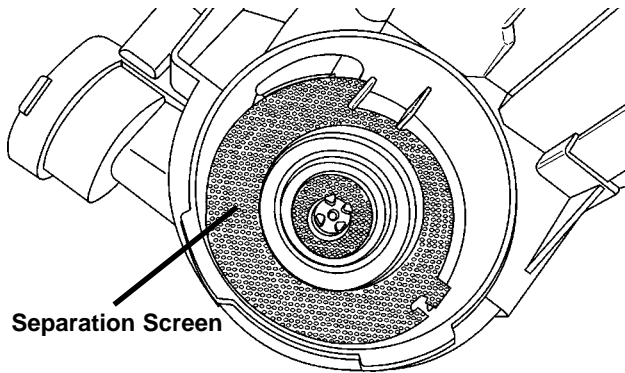

Fig. 3-25
- With the wash motor removed, the separation screen can be removed from the sump base. (Fig. 3-25)